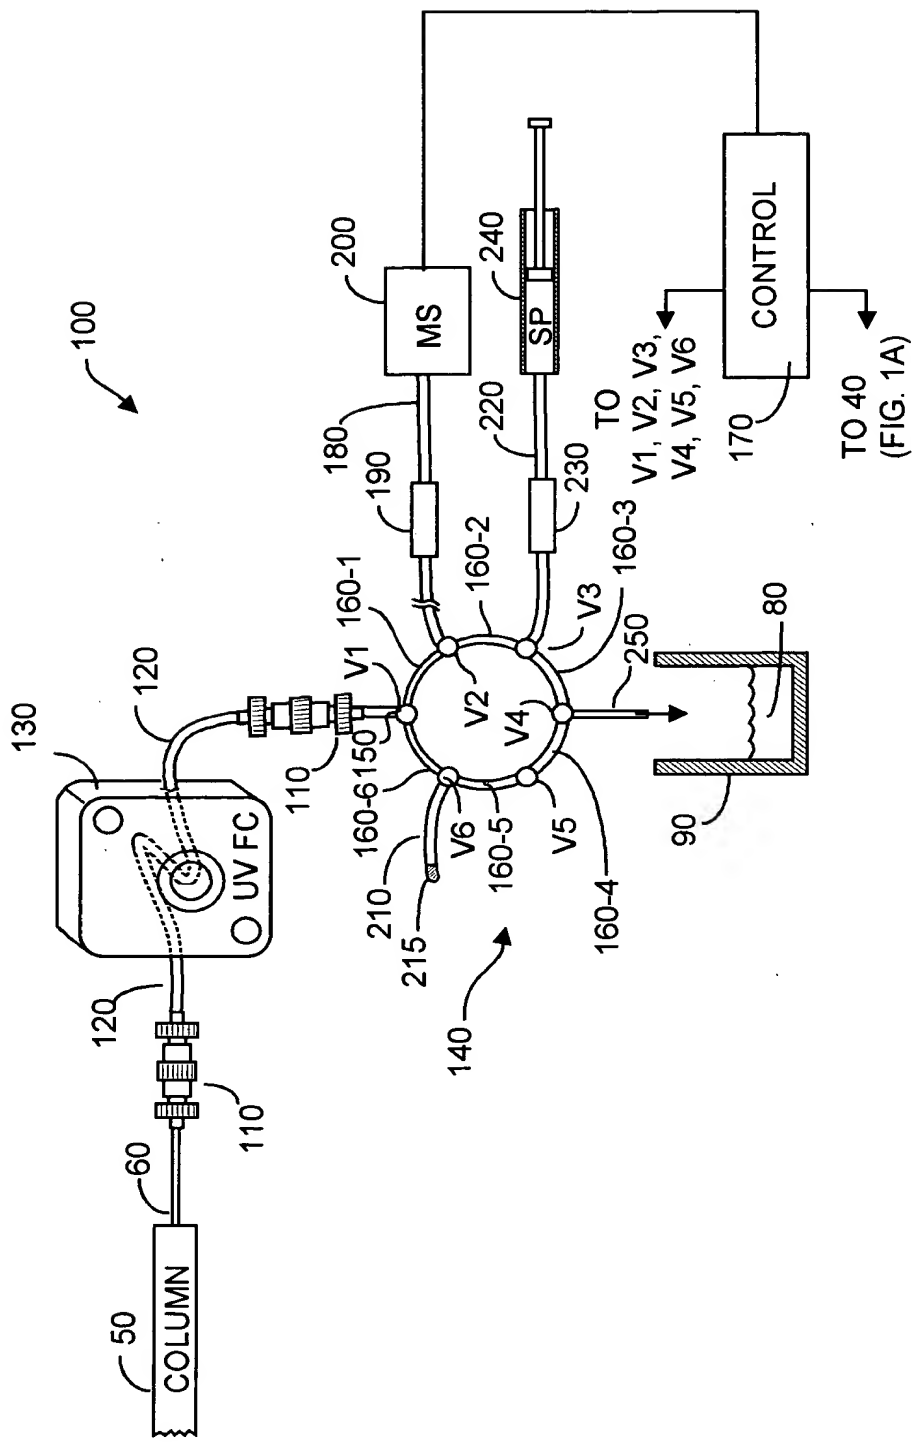

FIG. 2A
FIG. 2A is a schematic diagram of a liquid chromatography system 100. The system includes a column 50, a UV FC detector 130, a multi-port valve 140, a mass spectrometer (MS) 200, a sample processor (SP) 240, and a control unit 170. The column 50 is connected to the UV FC detector 130 via a line 60. The UV FC detector 130 is connected to the multi-port valve 140 via a line 110. The multi-port valve 140 has six ports labeled V1 through V6. Port V1 is connected to the UV FC detector 130. Port V2 is connected to the MS 200 via a line 180. Port V3 is connected to the SP 240 via a line 220. Port V4 is connected to a waste line 250. Port V5 is connected to a waste line 90. Port V6 is connected to a waste line 80. The multi-port valve 140 is controlled by the control unit 170. The control unit 170 is also connected to the MS 200 and the SP 240. The control unit 170 is connected to a data output line 40, which is labeled "TO 40 (FIG. 1A)".